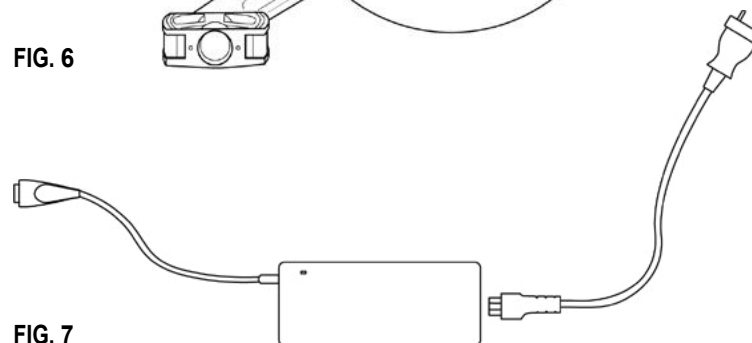

FIG. 7
2. Connect the battery charger supplied with the appropriate plug (FIG 7);